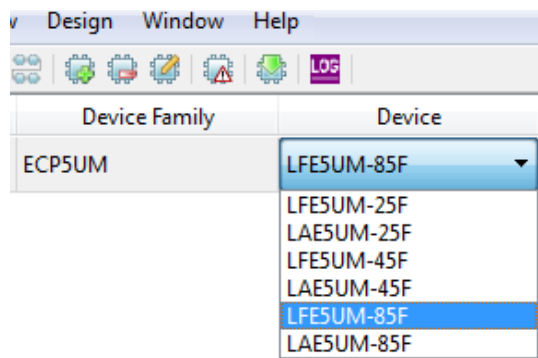

Figure 4.1. Device Selection
3. In the Diamond Programmer main interface, select **ECP5UM** in **Device Family** and **LFE5UM-85F** in **Device** as shown in Figure 4.1.